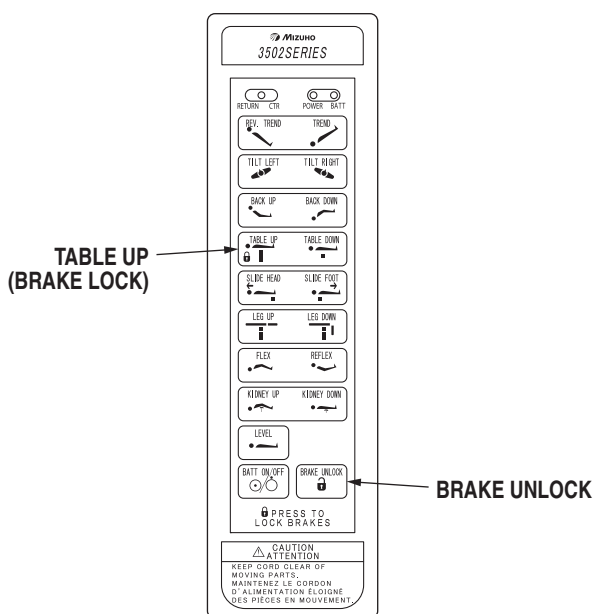

Figure 2-7. Brake System Activation
a. Floor Lock/Brake System To activate the brakes without affecting table positioning, press the TABLE UP button. See figure 2-7. The elevation cylinder will not function until the brakes are completely extended.
Press the BRAKE UNLOCK button on the pendant control to release the four self-leveling brake feet in order to move the table. See figure 2-7. The brake delay circuit automatically retracts the brake system. It takes approximately 7-8 seconds to totally release the system.